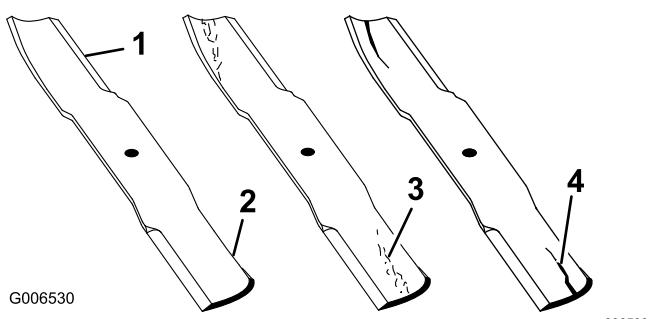

Figure 103
- Inspect the cutting edges (Figure 103).
- If you notice any cracks, wear, or a slot forming in this area, immediately install a new blade (Figure 103).